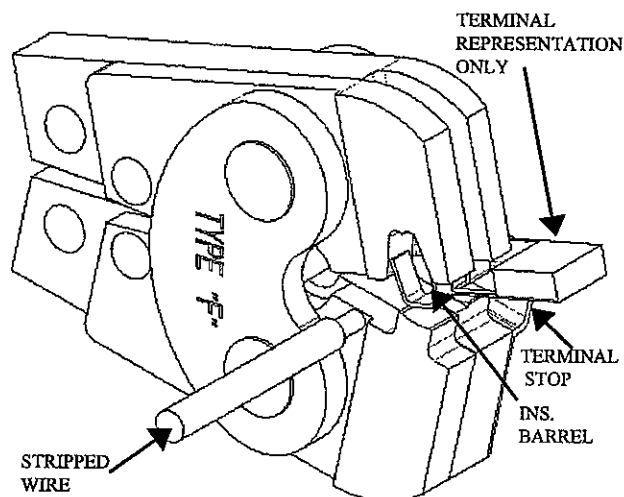

Figure 3
2. Insert terminal into the crimping chamber with the "U" shape of the insulation barrel facing the crimper jaw. Centre the insulation barrel and wire barrel on the crimpers, ensuring the terminal is positioned against the terminal stop. Refer to Figure 3.
Revision A - Figure 3 updated to reflect product location change.